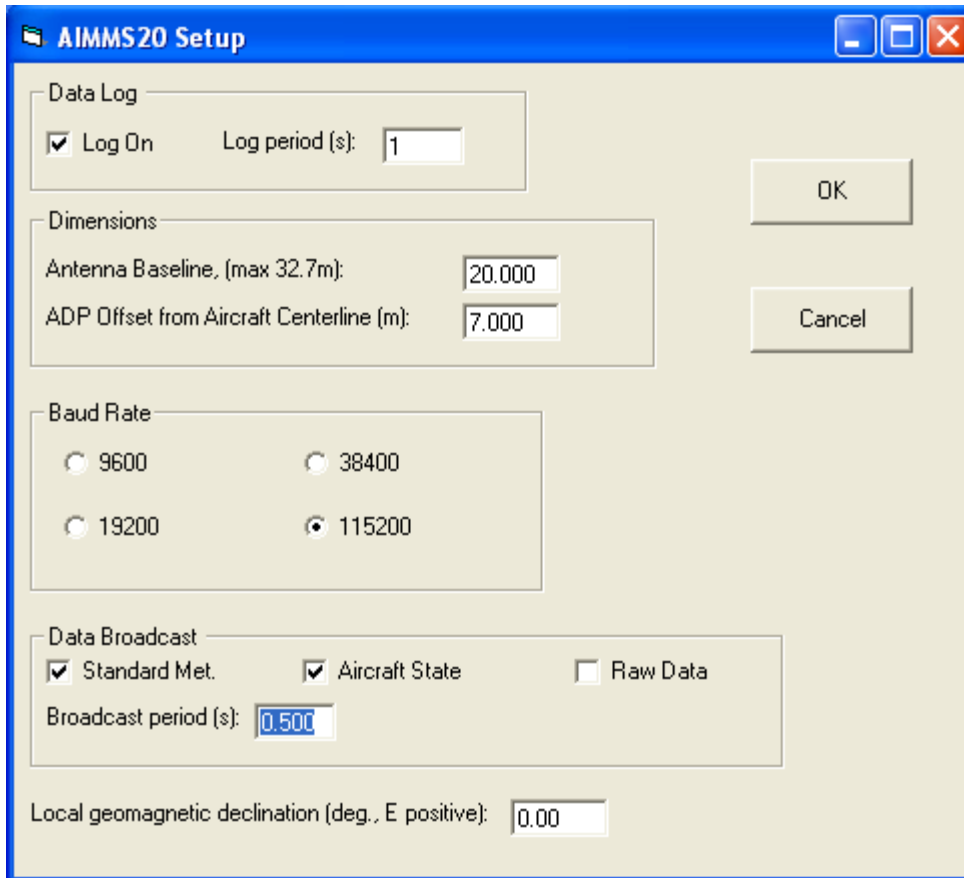

Figure 11: AIMMS20 Setup Window
- 4.) Click on **Setup**, which will bring up the window in Figure 11.
- 5.) Change the **Broadcast period** to the desired sample time in seconds. For instance, Figure 11 shows the broadcast period set to .5 sec / 2 Hz.